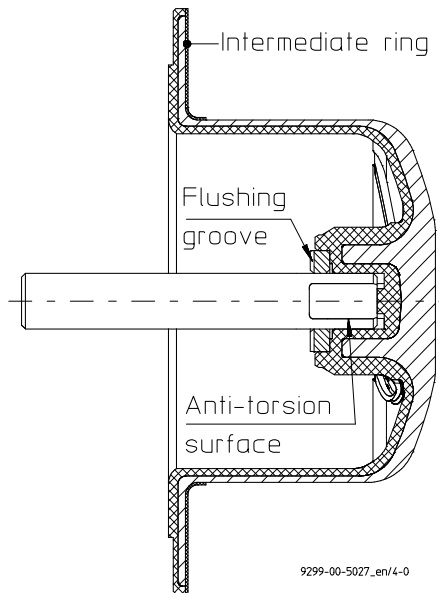

Fig. 8
- Push intermediate ring **509/1** onto the can. See **Figure 8** next side.